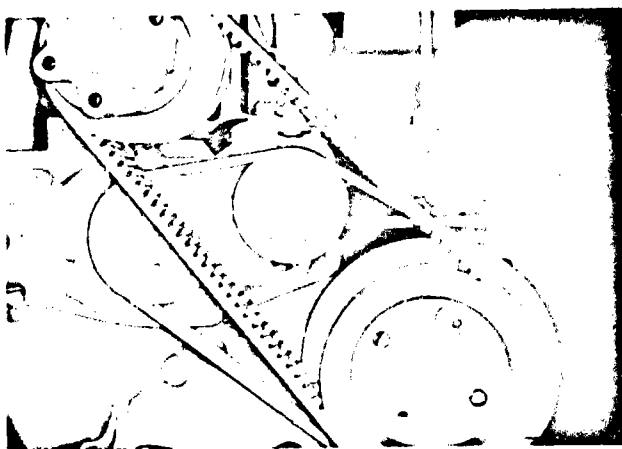

Fig. 2-4. (N11974). Water pump — with idler
1. Loosen the capscrews and lockwashers or locknut securing the idler pulley to the bracket or water pump. Fig. 2-4.